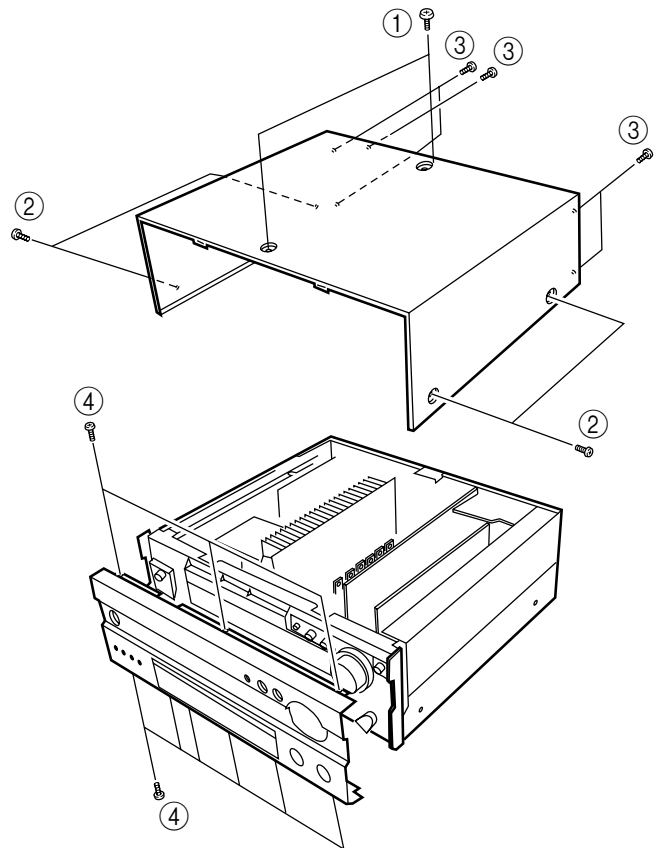
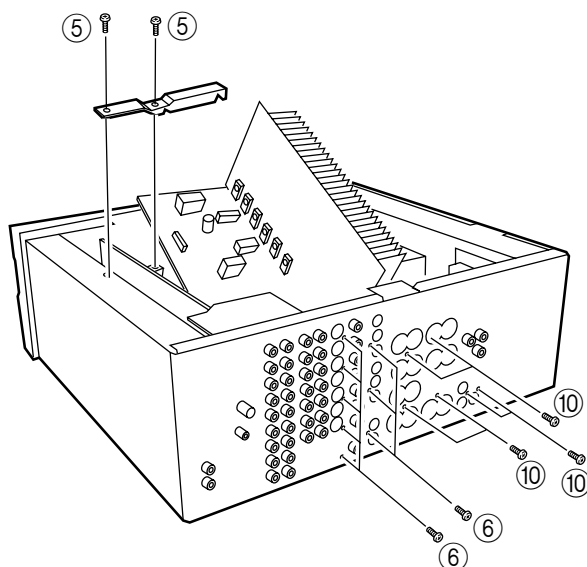

Fig. 1
Fig. 3
- Remove 2 screws (①), 4 screws (②) and 5 screws (③) in Fig. 1.
Remove 9 screws (④) in Fig. 1, and the Front Panel can be removed forward.
3. Removal of MAIN PCB (1)
- Remove 2 screws (⑤) in Fig. 3 AND remove the support metal plate.
- Remove 8 screws (⑥) in Fig. 3, and the VIDEO PCB (1) and VIDEO PCB (3) can be removed.
- Remove 6 screws (⑩) in Fig. 3.
- Pull out the MAIN PCB (1) forward as shown in Fig. 3.